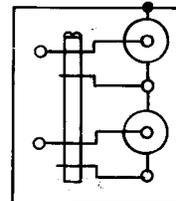

Fig. 6—408A Plug
2.06 **408A:** The 408A plug (Fig. 6) consists of a pair of coaxial plug fingers mounted in a metal shell. The 408A plug is designed for solderless shield connections to two cables and is used with the 477B- or similar-type jacks.